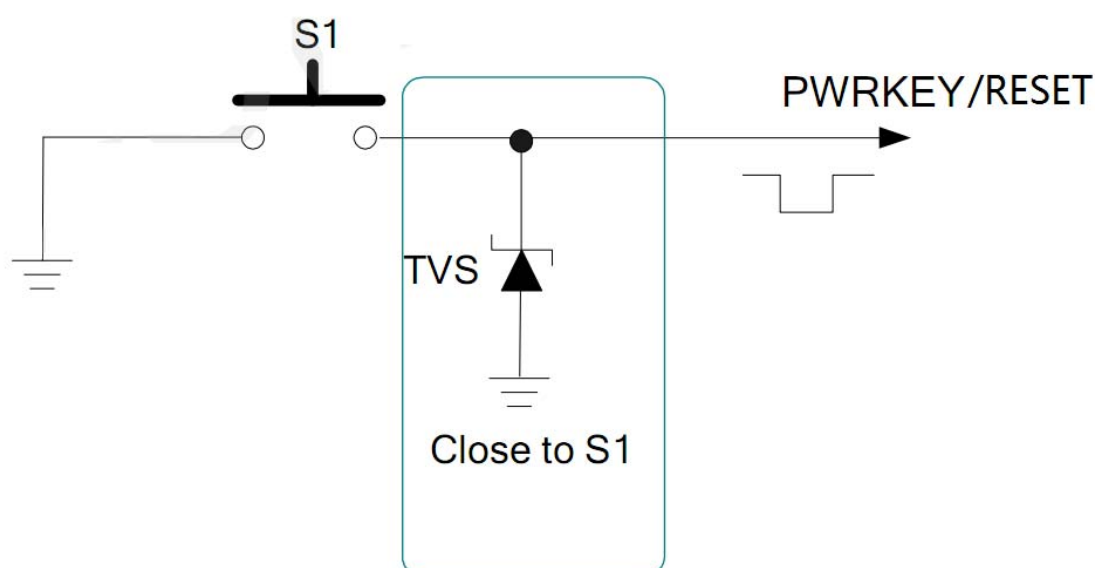

Figure 3-20: power on/off and reset recommended circuit (physical buttons)
4) As shown in figure 3-20 is the layout of antenna feed point of reference for clearance area.